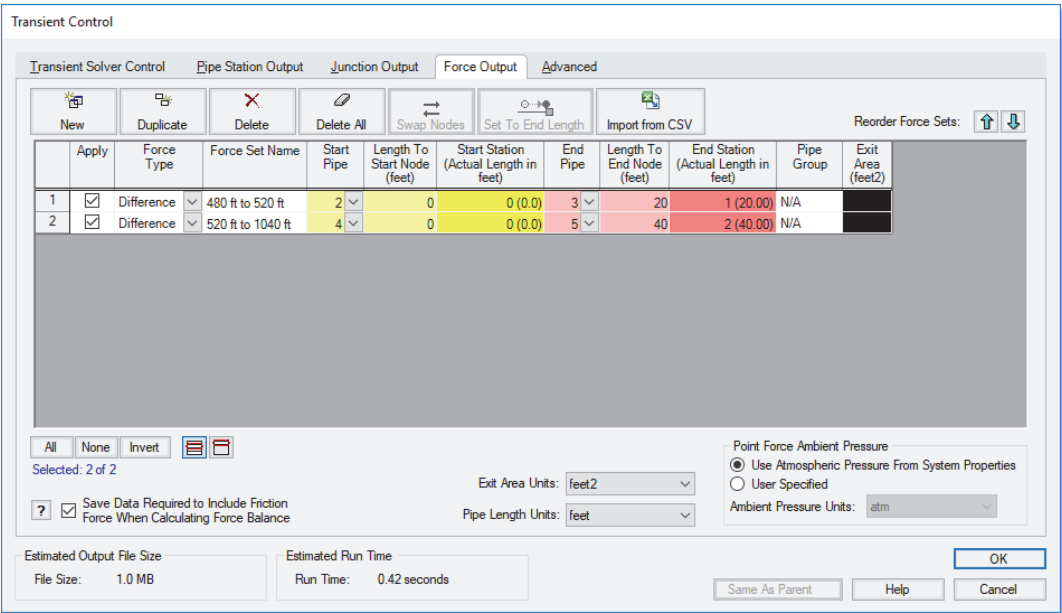

Figure 5.2 Force sets defined in Transient Control.
- **Select the Force Output tab** and define a force set by clicking New, then entering the data as shown in Figure 5.2. Repeat this process for the second force set.